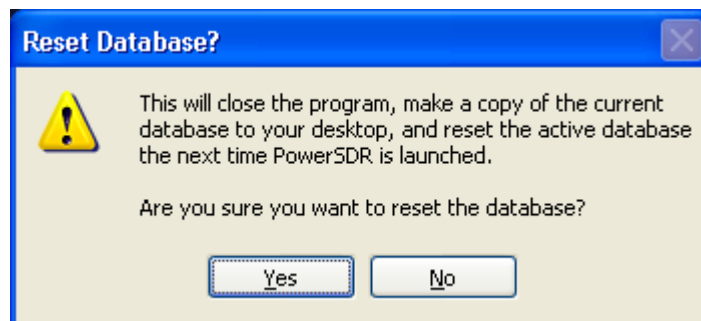

Figure 85: Reset Database Warning
- **Reset Database:** This displays the warning shown in Figure 85. Click **No** to avoid resetting the database. Click **yes** to reset the database, which entails closing PowerSDR, copying the database file to your desktop and deleting it from its current location. The next time you start-up PowerSDR it will automatically create a new, clean database and read the EEPROM data from your FLEX-3000 to the database. The copy of the database on your desktop is an xml-file named *PowerSDR_database_[date]_[time].xml*.